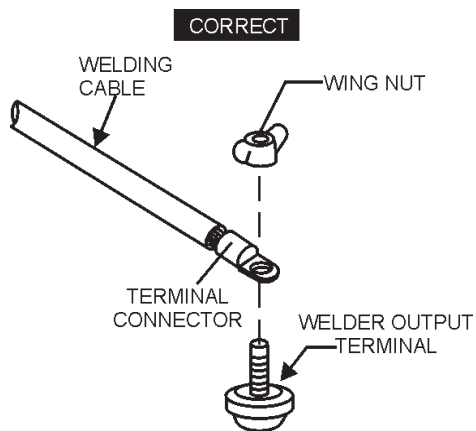

Figure 24. Welding Cable (Terminal Connector)
2. Attach the correct size terminal connector (Figure 24) to the free end of each cable.